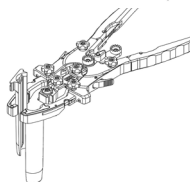

Figure 4
- Insert the caudal and cephalic blades by top loading them into the lateral slots on the retractor body until they click in place (Figure 4).